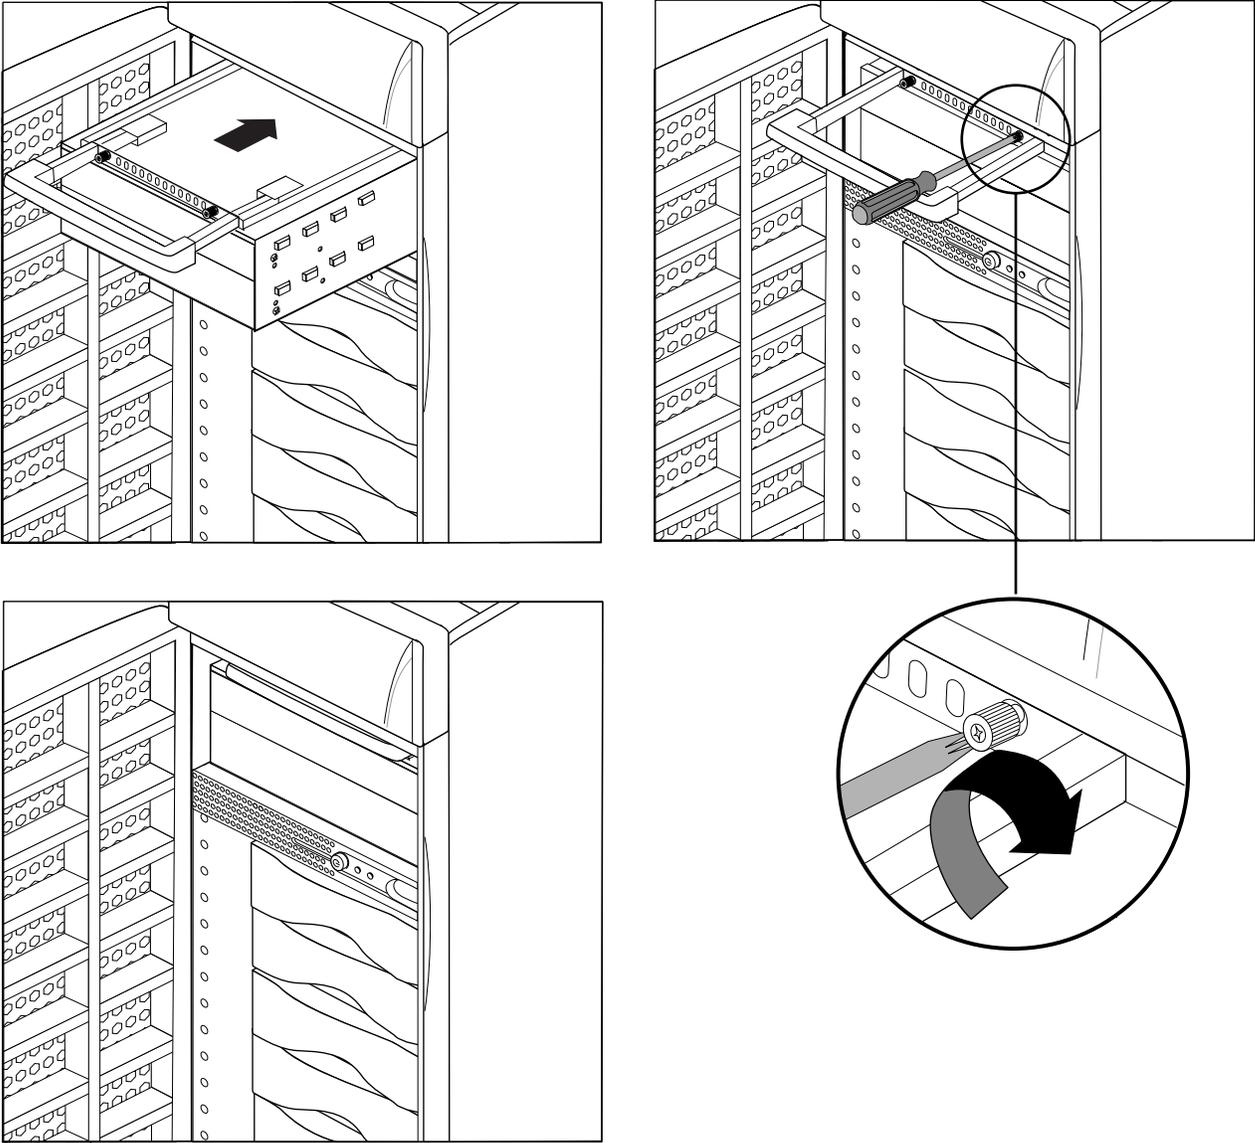

Figure 2-13 Replacing the 5.25-Inch Peripheral Carrier
- 7. Slide the carrier into the system, secure it with the captive screws, and push in the retractable handle. See Figure 2-13.